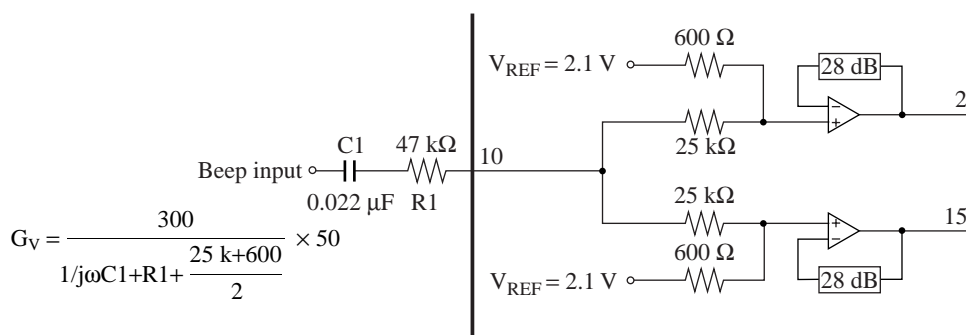

Figure 8
- 1) The application circuit using the beep sound input is shown in figure 8. Connect the beep signals from the microcomputer to pin 10 via the capacitor C1 for DC cut and the resistor R1 for voltage gain adjustment.